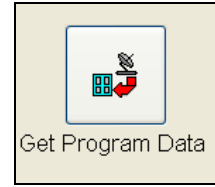

Figure 16.9.3A
2. Next click on the **Get Program Data** icon to the right of the screen (Figure 16.9.3A).